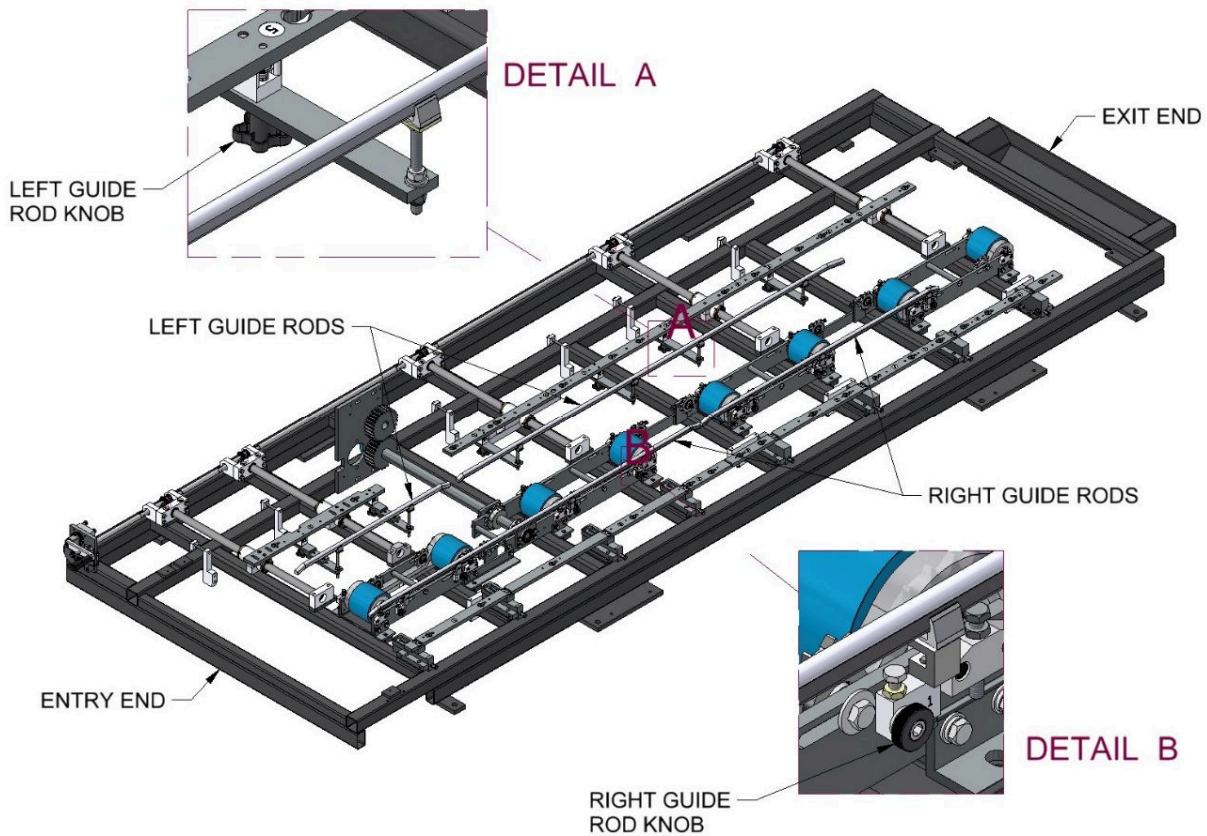

Figure 123: Quick Release Guide Rods in Standard Position
2. Locate the Right Guide Rod Knobs and loosen them (see Figure 123).